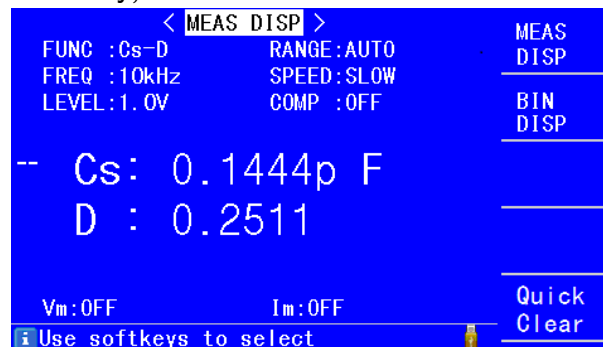
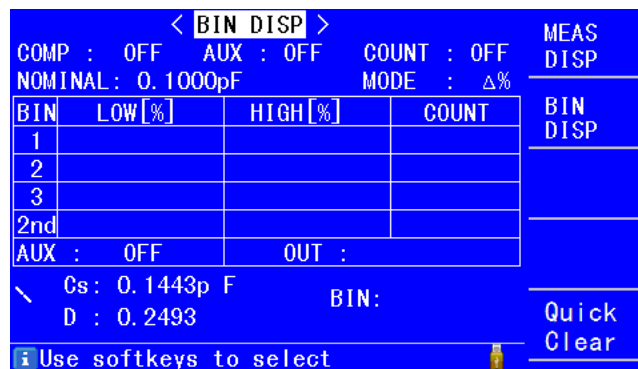

Figure 6-1 Measurement display page
Figure 6-2 <BIN DISP> page
1. Press the "MEAS" button on the panel to enter the < MEAS DISP > page (as shown in Figure 6-1), and press "BIN DISP " softkey to enter < BIN DISP > page (as shown in Figure 6-2).